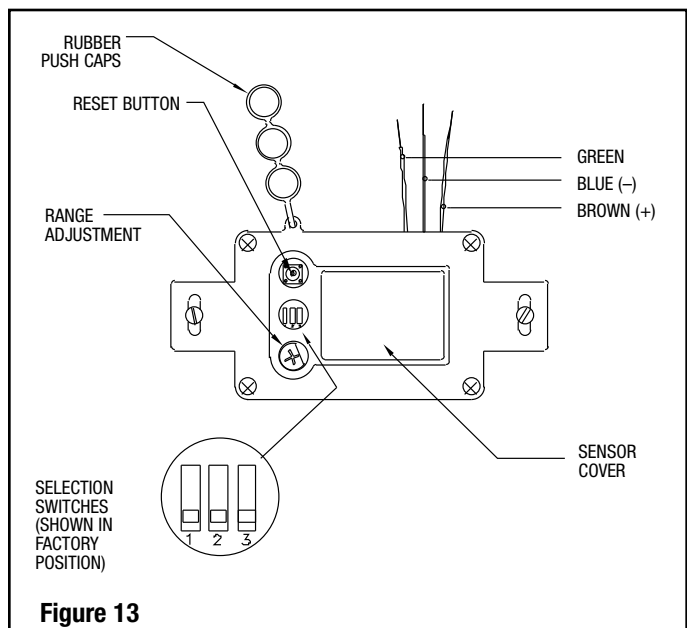

Figure 13
STEP 10 – Test and Adjustment (Figure 13)
- **To Make A Range Adjustment** – Remove the rubber push caps. The range adjustment is shown in Figure 13. Using a small screwdriver, turn the range adjustment clockwise to increase range (maximum range is 60") or counterclockwise to decrease range (minimum range is 12").
• Switch Settings (Figure 13)